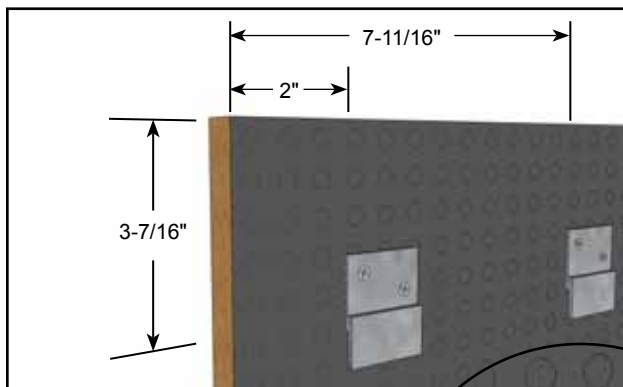

Figure 2
2. Measure the location of the z-clip resting points (Figure 2)